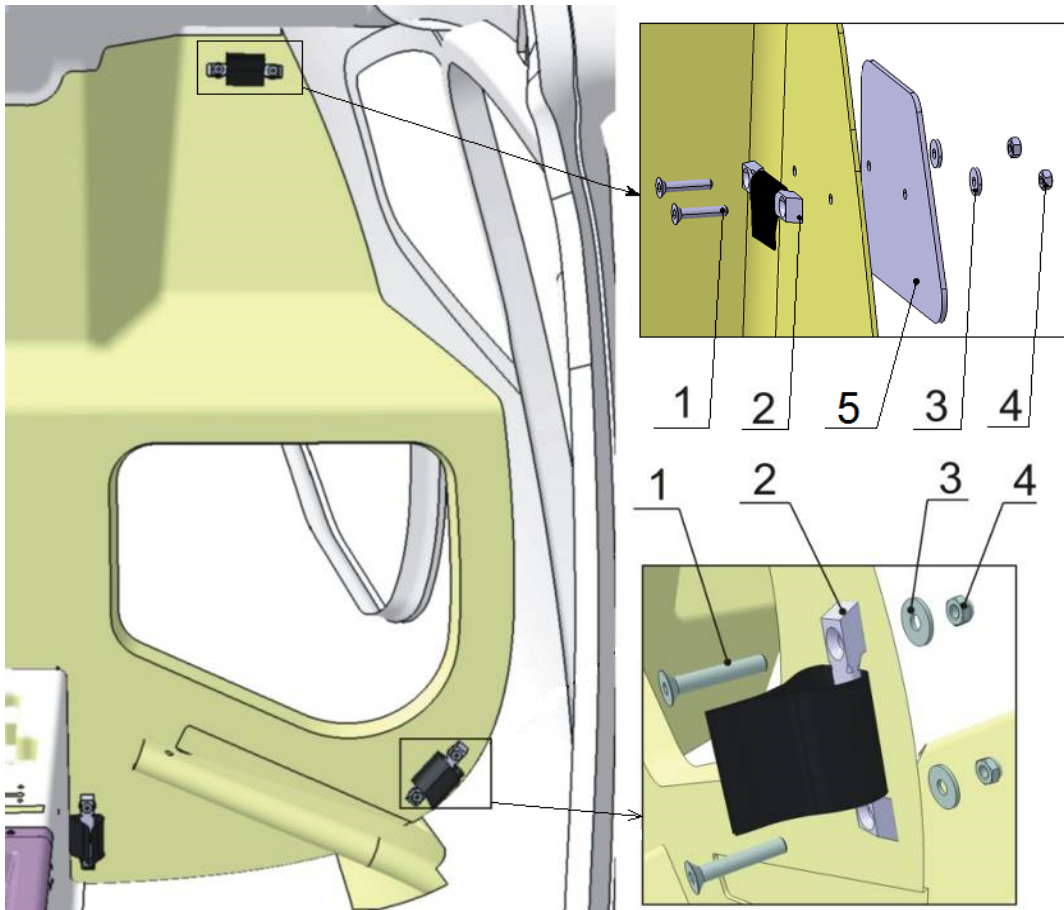

Fig. 25-00-2
B. Safety Belt Uninstalling and Installing (Fig. 25-00-2)